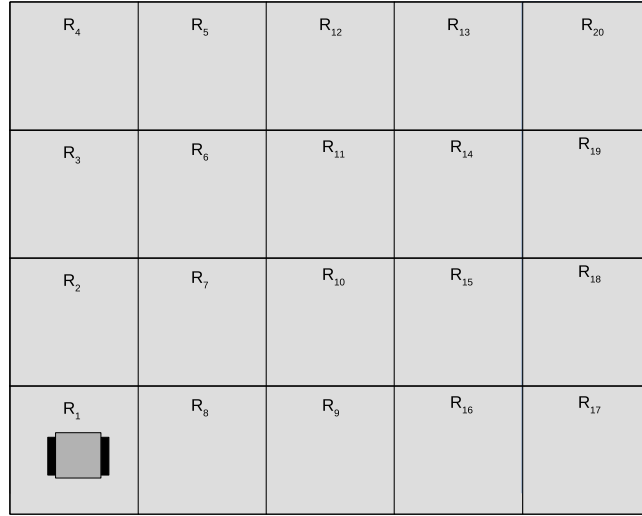

Figure 4: Workspace discretization in rectangular regions
First, we need to provide a discretization of the workspace into regions that will resemble the states of our  $\mathcal{T}$ . The discretization that we consider is  $R = \{R_1, \dots, R_K\}$ , i.e.,  $K$  equally sized rectangular regions, as illustrated in Figure 4. The workspace that the robot operates is a 2D rectangle, centered at  $(0, 0)$ , with dimensions  $3 \times 3\text{m}^2$ .
**Task 2** (8p). *Given the aforementioned specifications, and the fact that the largest dimension of the robot is approximately 38 centimeters, propose a Transition System of the form  $\mathcal{T} = (S, S_0, \Sigma, \rightarrow, AP, \mathcal{L})$ . Specify also the number  $K$  of regions as well as its dimensions. The numbering of the regions should be done as in Figure 4. Also, take into account the fact that during a transition between two regions, the robot should always remain in these two regions. Finally, provide a graphical illustration of the discretized*
workspace (as in Figure 4) along with the atomic propositions  $\Pi$  that are true in each state.